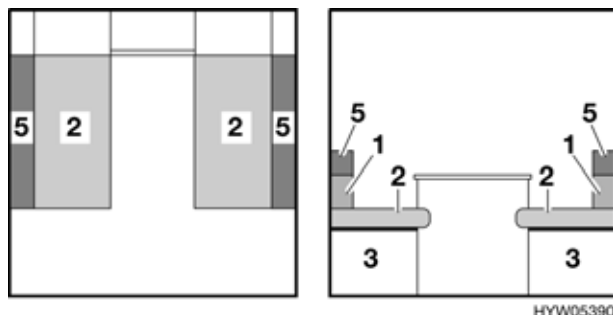

Fig. 91 Prior to conversion
- Remove the additional cushion (Fig. 91,5) from the back cushion (Fig. 91,1). The additional cushion is fixed to the back cushion with Velcro and can easily be separated.